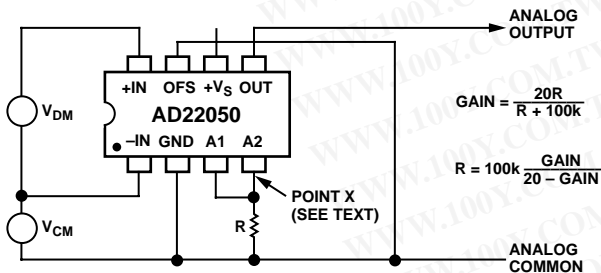

Figure 4. Achieving Gains Less Than  $\times 20$
**Decreasing the Gain.** See Figure 4. Since the output of the preamplifier has an output resistance of  $100 \text{ k}\Omega$ , an external resistor connected from Pin 4 to ground will precisely lower the gain by a factor  $\text{R}/(100\text{k}+\text{R})$ . When configuring the AD22050 for any gain, the maximum input and the power supply being used should be considered, since either the preamplifier or the output buffer will reach its full-scale output (approximately  $\text{V}_S - 0.2 \text{ V}$ ) with large differential input voltages. The input of the AD22050 is limited to no greater than  $(\text{V} - 0.2)/10$ , for overall gains less than 10, since the preamplifier, with its fixed gain of  $\times 10$ , reaches its full scale output before the output buffer. For  $\text{V}_S = 5 \text{ V}$  this is  $0.48 \text{ V}$ . For gains greater than 10, however, the swing at the buffer output reaches its full-scale first and limits the AD22050 input to  $(\text{V}_S - 0.2)/\text{G}$ , where  $\text{G}$  is the overall gain. Increasing the power supply voltage increases the allowable maximum input. For  $\text{V}_S = 5 \text{ V}$  and a nominal gain of 20, the maximum input is  $240 \text{ mV}$ .
The overall bandwidth is unaffected by changes in gain using this method, although there may be a small offset voltage due to the imbalance in source resistances at the input to A2. In many cases this can be ignored but, if desired, can be nulled by inserting a resistor in series with Pin 4 (at "Point X" in Figure 4) of value  $100 \text{ k}\Omega$  minus the parallel sum of  $\text{R}$  and  $100 \text{ k}\Omega$ . For example, with  $\text{R} = 100 \text{ k}\Omega$  (giving a total gain of  $\times 10$ ), the optional offset nulling resistor is  $50 \text{ k}\Omega$ .